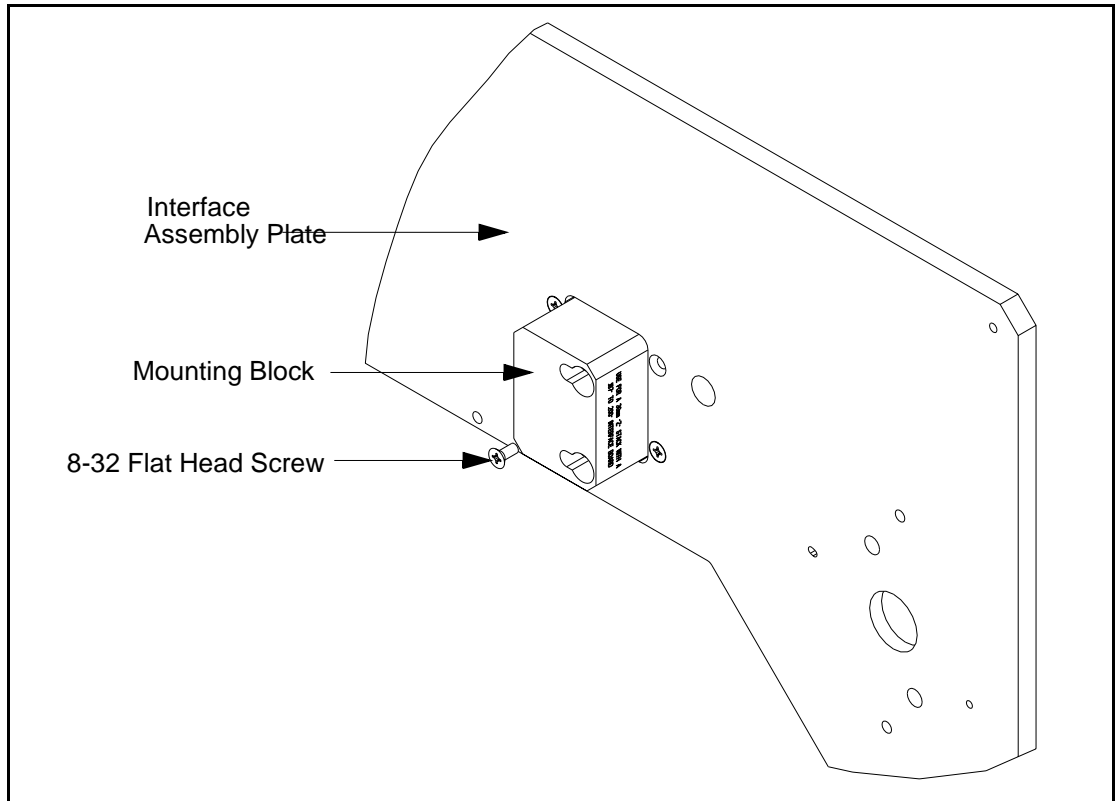

Figure 25 Upgrade Assembly Sequence
- 6) Each block is secured with 8-32 flat head screws. Remove the screws and remove the mounting block. See Figure 25.